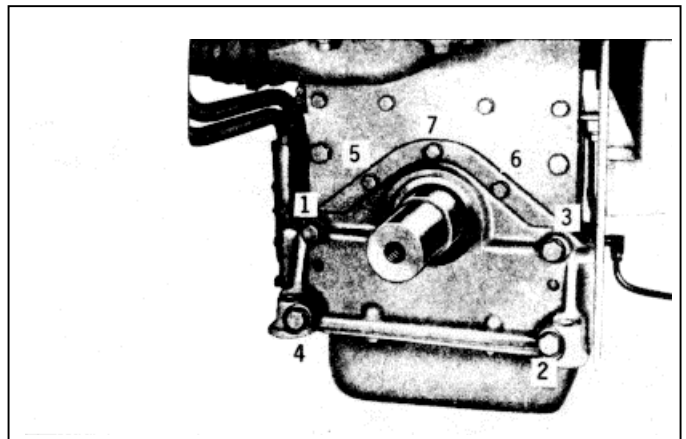

Fig. 3. Crankshaft Front Cover Bolt Tightening Sequence
- (5) Tighten the cover attaching bolts by following the tightening sequence indicated in Fig. 3. Follow this sequence as the bolts are drawn up and then tightened to their proper torque to effect a good seal between the mating parts. Tighten the 3/8"-24 bolts to 25-30 ft-lbs (34-41 Nm) and the 1/2"-13 bolts to 80-90 ft-lbs (108-122 Nm) torque.
- (6) Apply a light coating of engine oil to the vibration damper inner cone or the oil seal 6 spacer and slide it into place on the crankshaft.
- (7) Install the oil pan, using a new gasket. Refer to Lubricating Oil Specifications in Operator's Manual and refill the crankcase with oil to the proper level on the dipstick.